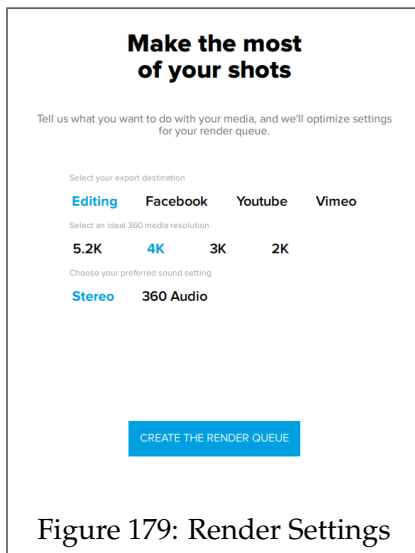

Figure 179: Render Settings
3. A window similar to figure 179 will open. Set the export destination as 'Editing', the output resolution to '4K', and then press 'Create the Render Queue'.